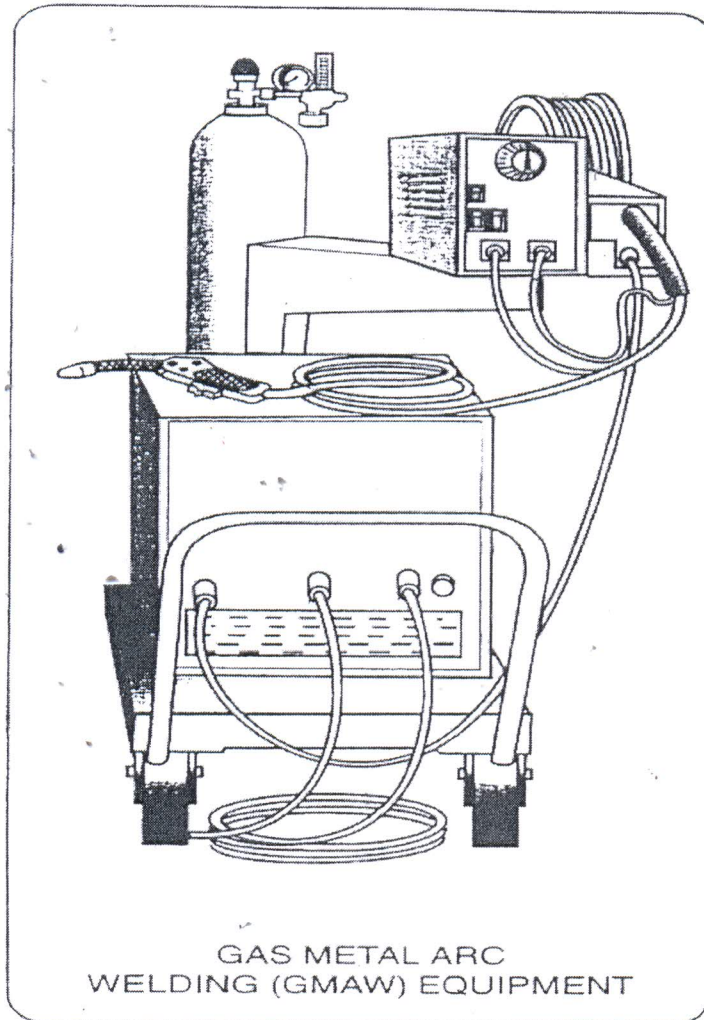

Figure 2 – Gas Metal Arc Welding (GMAW) Equipment
- (a) The GMAW process is a versatile technique which can be useful for stainless steel welding. Figure 2 shows complete Gas Metal Arc Welding (GMAW) equipment.